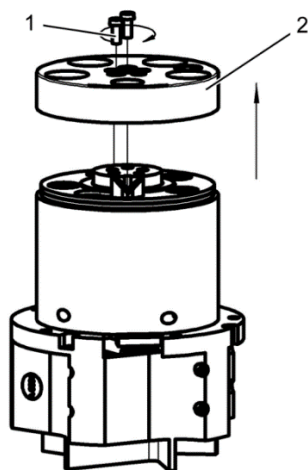

Fig. 74: Loosening the screws
1. Loosen and remove the two inside screws (Fig. 74 /1) from the cover (Fig. 74 /2).